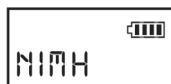

Figure 14
4. After 3 seconds of selecting a battery type, it will be automatically saved (Fig 14).